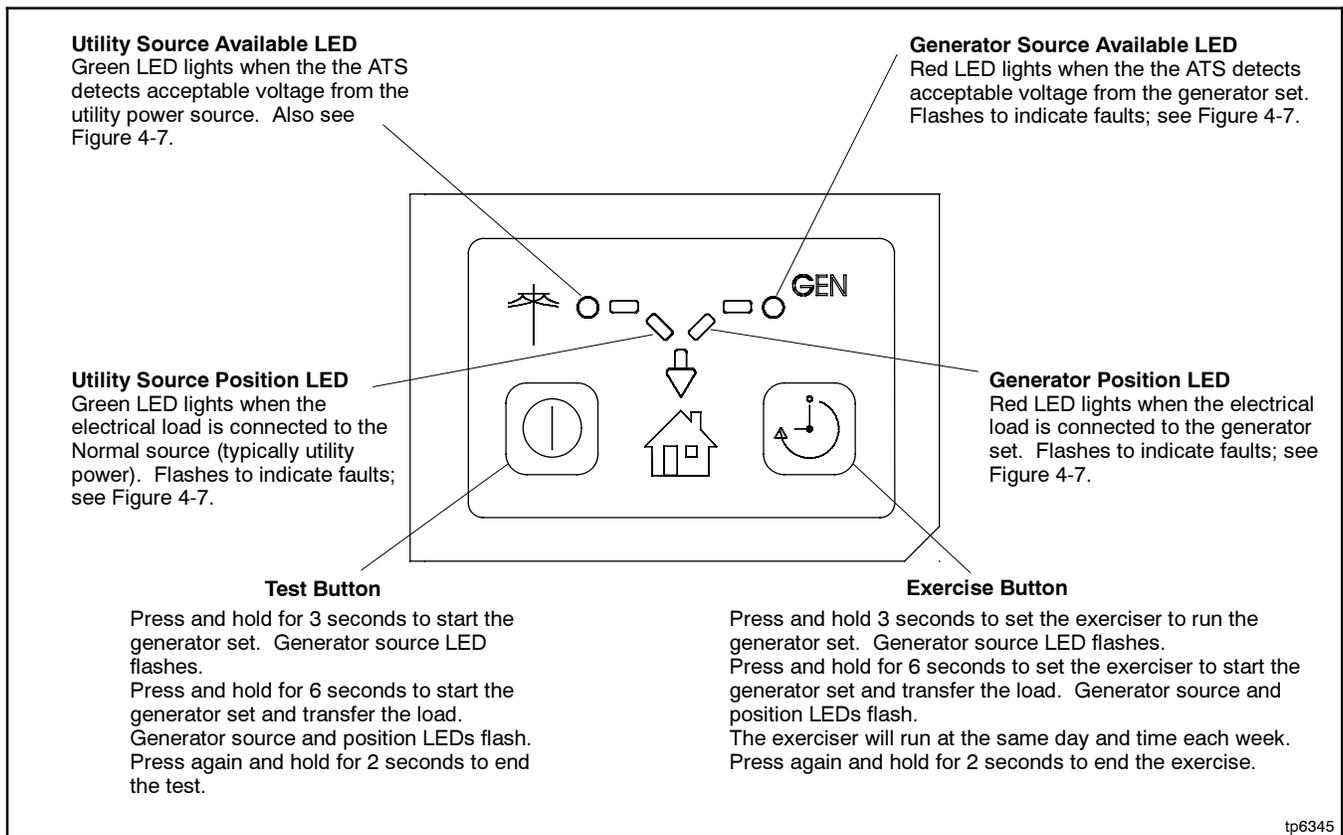

Figure 2-1 User Interface Panel
Red and green LEDs on the transfer switch controls indicate the available sources, show the source connected to the load, and flash to indicate fault conditions. Pushbuttons allow you to start and stop the generator set and set the exercise timer. See Figure 2-1.
The controller's user interface panel is accessible through an opening in the transfer switch cover (the inner panel on NEMA type 3R enclosures). Figure 2-1 explains the operation of the controller pushbuttons and LED indicators.
1. Check the controller LED indicators to verify that the Utility Source Available and Utility Source Position indicators are lit. See Figure 2-1.